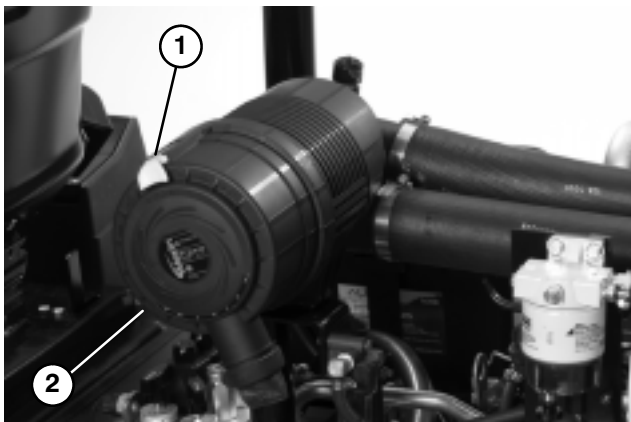

Figure 42
1. Release latch securing air cleaner cover to air cleaner body (Fig. 42). Separate cover from body. Clean inside of air cleaner cover.